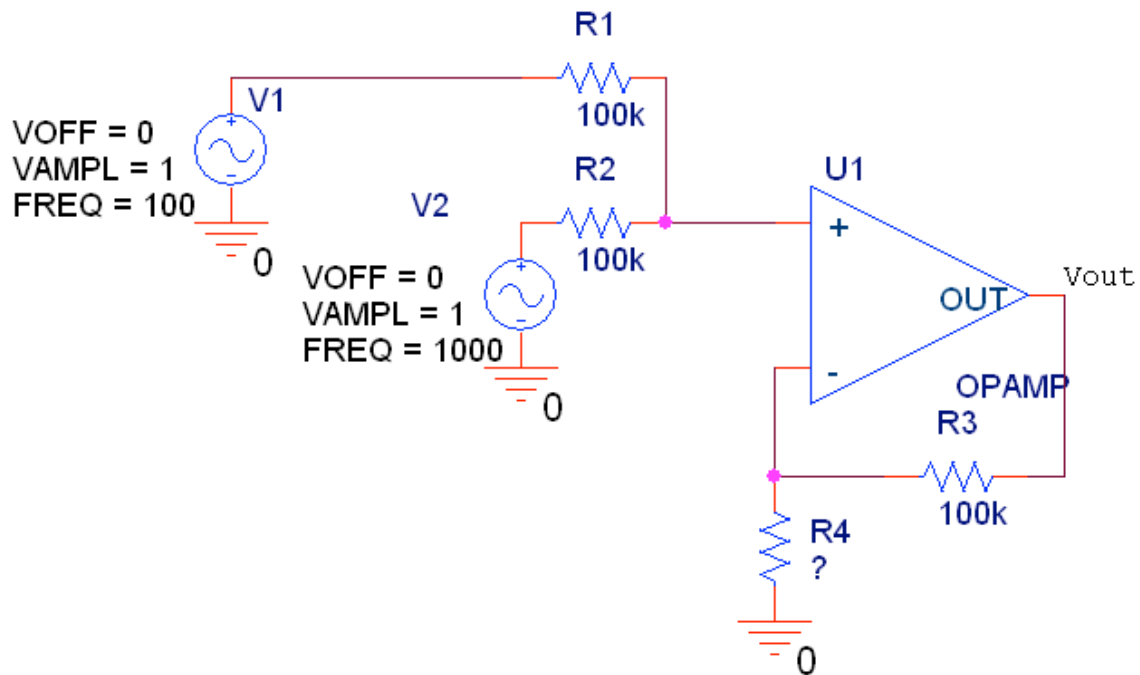
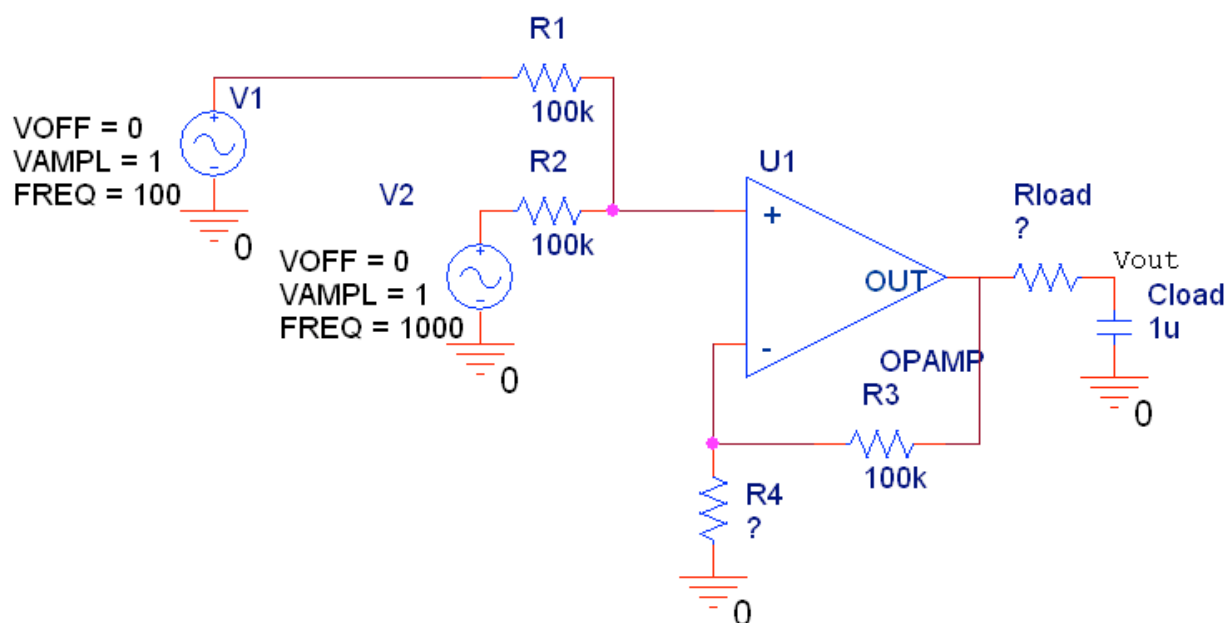

Figure 4: Summer-Circuit with Two Input Voltages
Figure 6: Example of How the Filters Should be Attached
4. A summer-circuit with only two inputs is shown in Figure 4:
(e) With these resistor values chosen, add each filter to the output (one at a time) to the output of the circuit shown in Figure 4. Print out both the schematic and the resulting waveform, showing the inputs and the filtered output, for both the low-pass filter and the high-pass filter. For an example of how to attach the filters, see how the low-pass filter is attached in Figure 6:
2. Construct the circuit shown in Figure 4 (pg. 4), using the value of R_4 chosen earlier. The two different voltage sources will have to come from two different function generators. The resulting waveform may not stabilize on the oscilloscope, so the run/stop button may have to be pressed to see the output waveform. You should see a 100Hz signal with a $1,000\text{Hz}$ signal imposed on top of it. Have the TA check the signal on the screen.